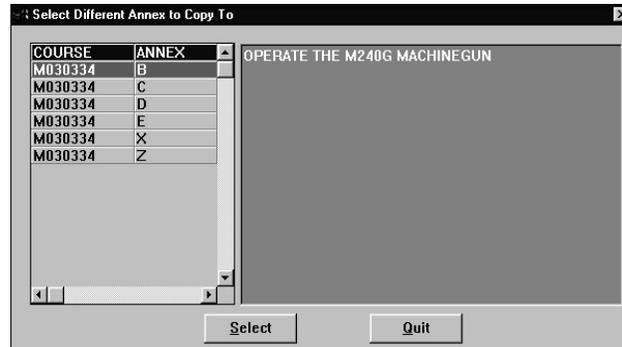

Figure 6-80. Select Different Annex To Copy To
- b. If you choose Select Another Annex, the Select Different Annex To Copy To selection list box (Figure 6-80) opens. You are presented with a list of all existing annexes in the Working course.
- b. If you choose Select an Existing Annex, the Select Different Annex To Copy To selection list box (Figure 6-80) opens. You are presented with a list of every annex in the Working course including the one with the matching designator. Highlight the annex to which you wish to assign the retrieved concept card. If you choose the annex with the same designator, MCAIMS will not overwrite the annex title and scope in the Working course. Proceed to Step 8.
- b. If you choose Select Another Annex, the Select Different Annex To Copy To selection list box (Figure 6-80) opens. You are presented with a list of all other annexes in the Working course to which you could assign the retrieved concept card. Highlight the desired annex and click on **Select**. Proceed to Step 8.